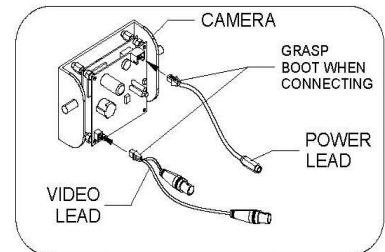

FIGURE 3
5. Connect power and video leads to the camera. [FIGURE 3]